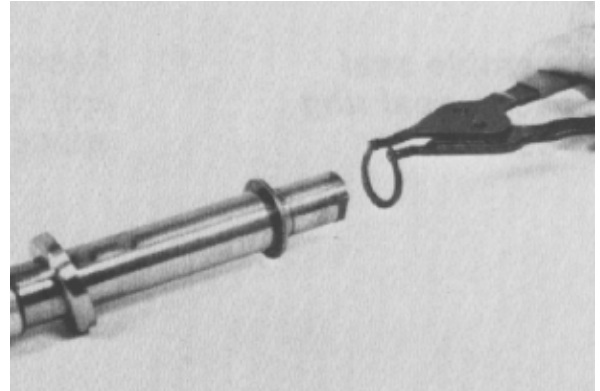

Figure 85
5. Install the snap ring onto the input shaft if it was removed (Fig. 85).